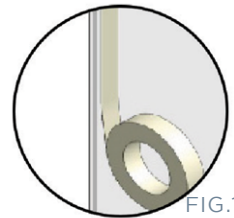

FIG.13
- Hold glass to glass join in place with insulation/gaffa tape (FIG 13).